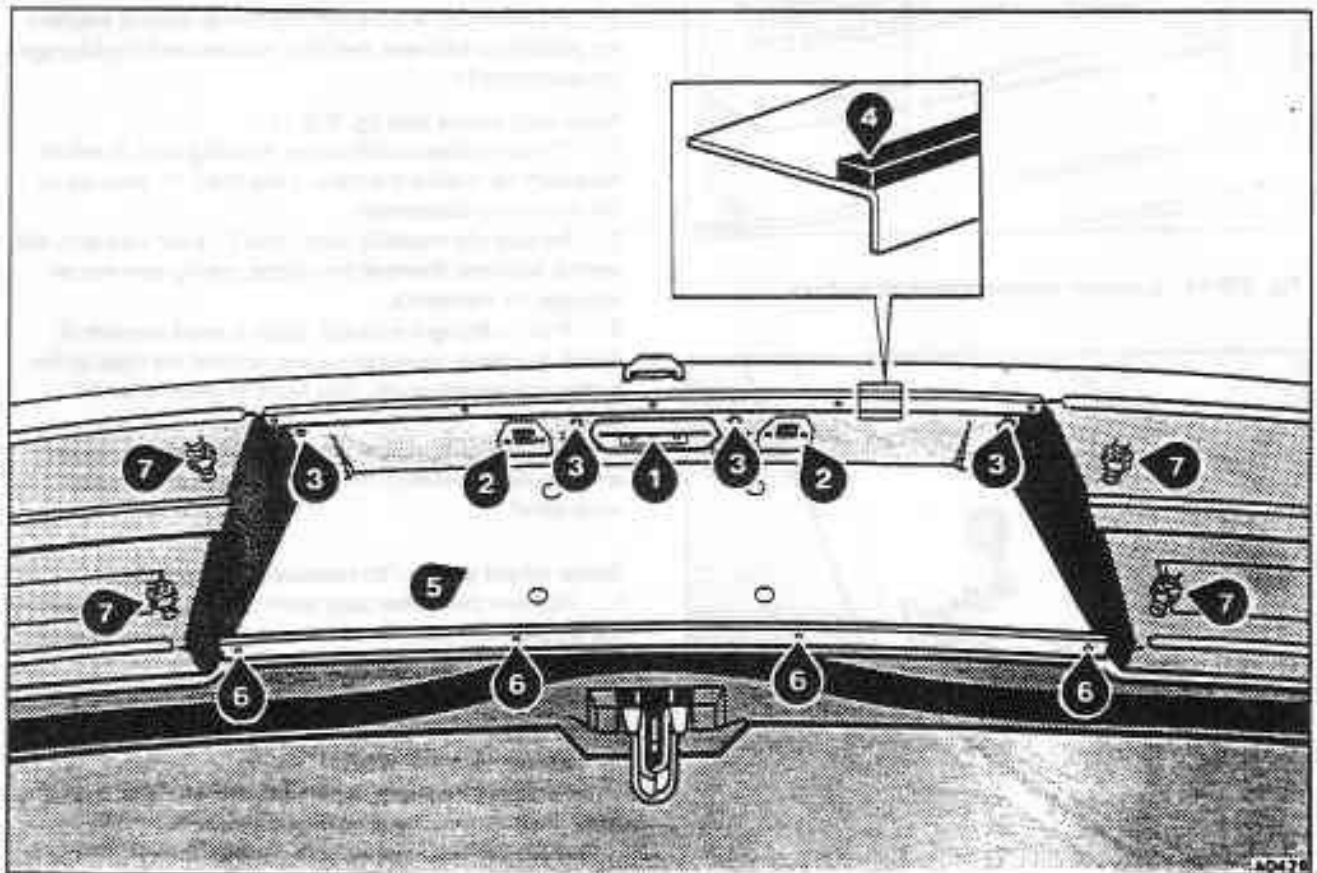

Fig. S15-13 Luggage compartment lid exterior fittings
Number plate lamp mounting bracket - To remove and fit (see fig. S15-13)
Rear number plate trim panel - To remove and fit (see fig. S15-13, item 5)